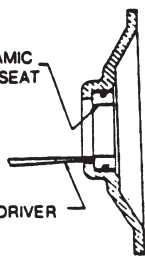

FIGURE 2
4. Pry loose the ceramic seal by applying a screwdriver between the seat and cavity in the adapter. Clean the cavity from which seal was removed and the motor shaft. (Figure 2)